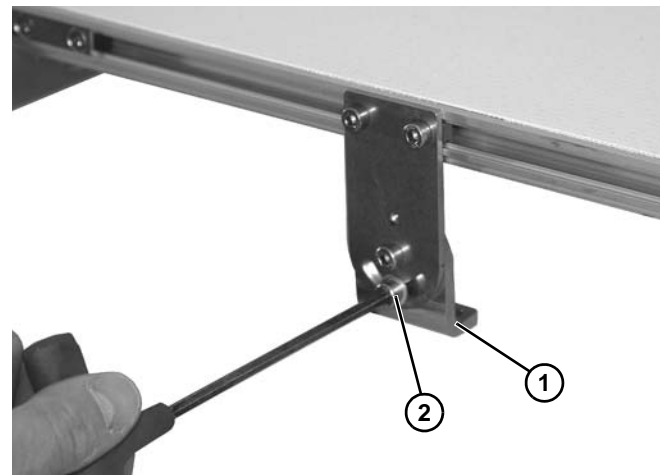

Figure 9
4. To adjust angle of pivoting bracket (Figure 9, item 1) loosen screw (Figure 9, item 2) and rotate pivoting bracket to desired position.
5. Tighten screw (Figure 9, item 2) to 15 in-lb (1.7 Nm).